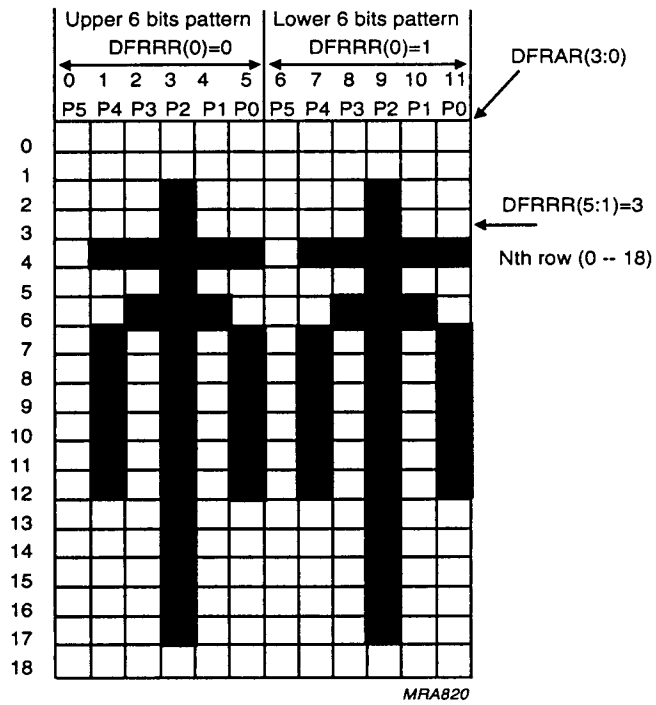

Fig.4 Character Font Dot Matrix Organization.
**DFRAR (3:0)** is to determine the Nth (0-15) character in the DFR, see Fig.4.
**DFRRR (0)** is to determine the first 6-bit pattern or the second 6-bit pattern of that row.
When the DFRAR is loaded with new data via the I2C-bus, DFRRR is reset to zero internally by hardware to point to the start of this particular soft font. Fig.4 shows the character matrix organization.